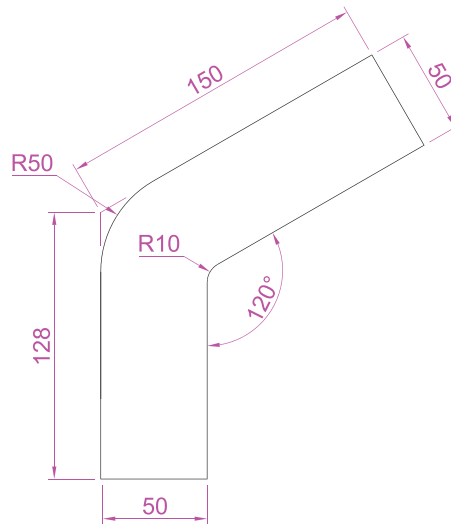

Fig. 17.22 Second example – 2D outlines in 3D space. Outline to be extruded
- Place the drawing area in the **ViewCube/Front** view, **Zoom** to **1** and construct the outline in Fig. 17.22.